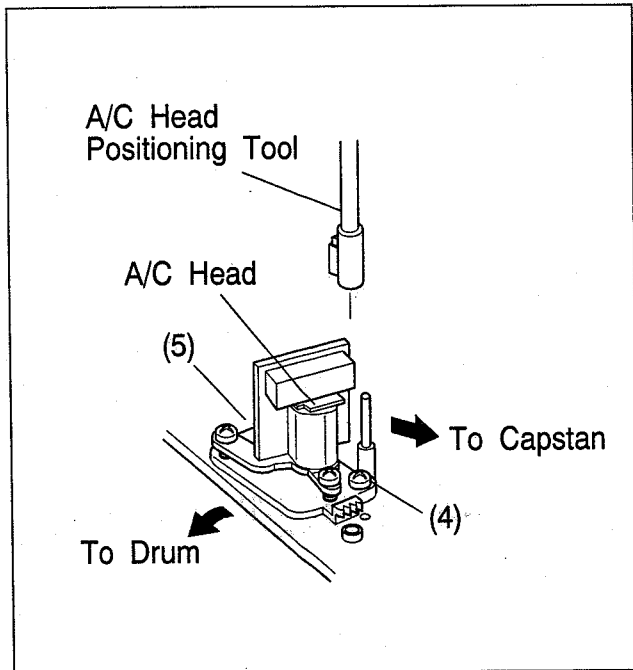

Fig. 2-7-6
- (1) Connect the oscilloscope to TP6(PB FM) on the PRE/REC board. Use TP11(D.FF) on the PRE/REC board as a trigger.
- (2) Playback the SP stairstep portion of the alignment tape [MHP].
- (3) Set the neutral manual tracking position by simultaneously pressing the CH "-" and "+" buttons.
- (4) If adjustment is required, slightly loosen screws (4) and (5). Set A/C head positioning tool on the A/C head adjusting boss as indicated in Fig.2-7-6.